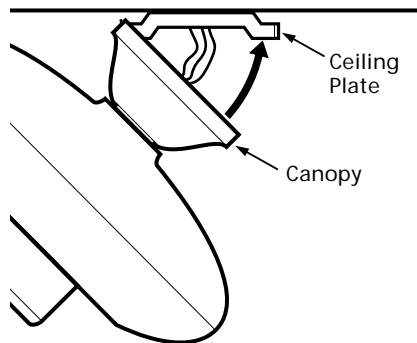

Figure 8a - Attaching Canopy to Ceiling Plate
1. Swing the fan up so as to align the canopy screw holes with the mounting holes on the ceiling plate. Refer to Figure 8a.